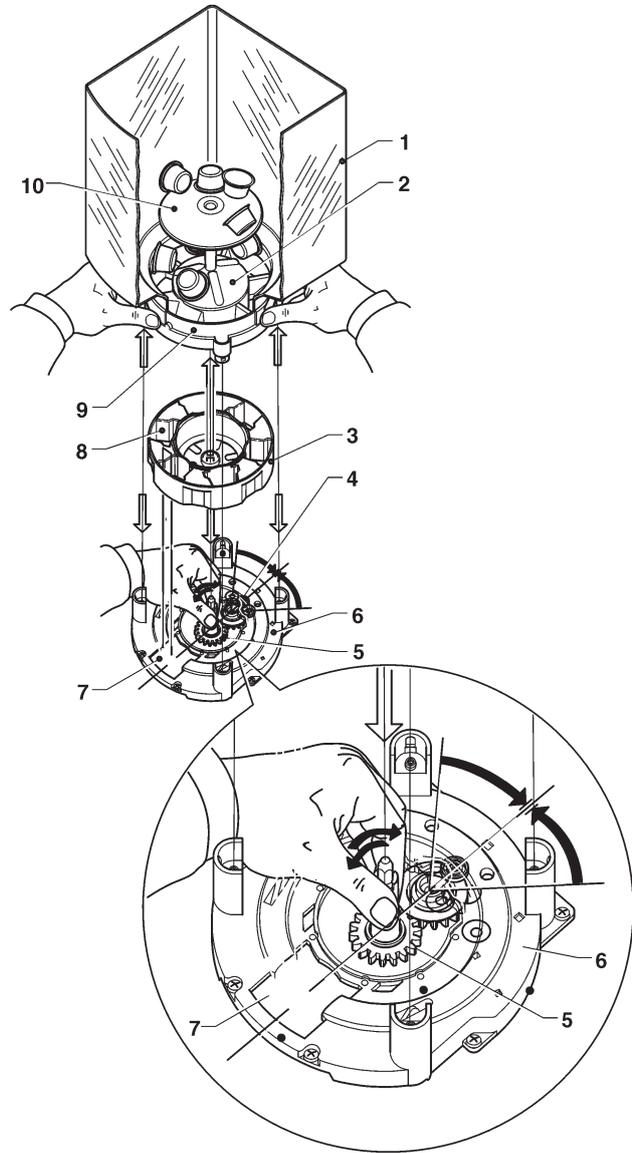

Fig. 12
**It is absolutely necessary to reassemble the cover before setting the machine at work once again (see figure 12).**